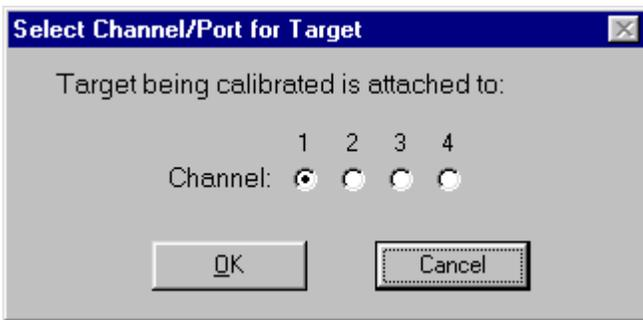
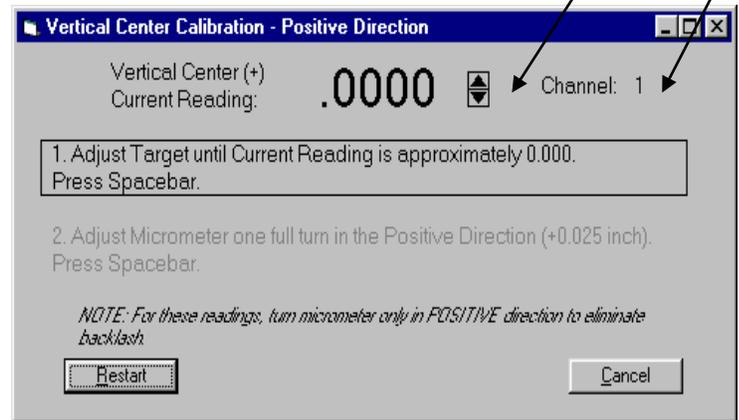

Figure 25—Channel/Port Selection Screen
Figure 26—Calibration Screen
The Select Channel/Port for Target menu displays (see Figure 25). Select the channel or the port to which the target is attached and click **OK**. The Calibration Screen displays and indicates the Port or Channel selected (see the right arrow in Figure 26).
- The double arrows next to the reading are visible only in Manual Data mode and are not available when actual targets are being read (see left arrow in Figure 26).
1. **For the first reading, (in this case V+), center the target using the centering micrometer. This corresponds to Step 1 on the Calibration Screen (see Figure 26).**
1. For the first reading, (in this case V+), center the target using the centering micrometer. This corresponds to Step 1 on the Calibration Screen (see Figure 26).